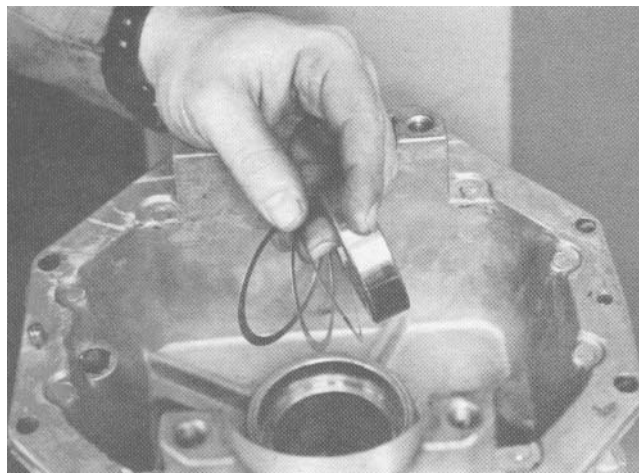

Figure 28
5. Install the correct bearing shims and a new inner bearing cup using a press plate of proper diameter. Push the bearing into the housing until it bottoms out against the shims (Fig. 28).